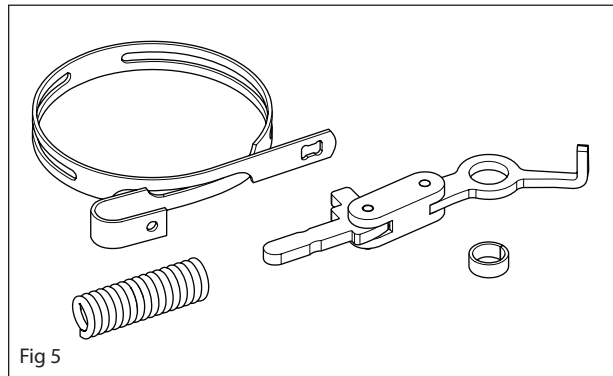

Fig 5
- Measure the thickness of the chain brake band. It must not be less than 0.6 mm at any point. See figure 5.